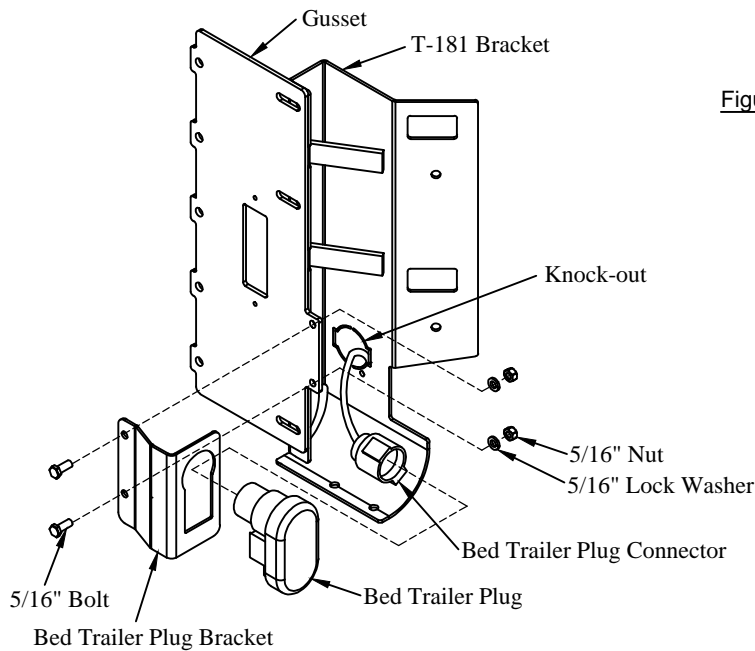

Figure 18: Bed trailer plug bracket.
23. **Install** the bed trailer plug into the bracket (Figure 18).
25. **Install** the bed trailer plug bracket on the driver side gusset (Figure 18). Use the provided two (2) 5/16 bolts, lock washers and nuts.